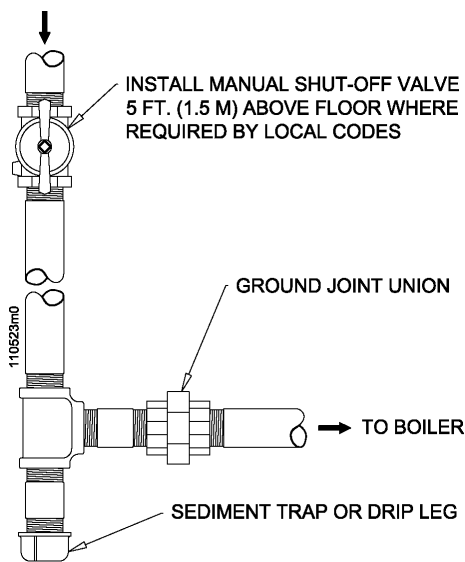

Figure 14 - Gas supply piping
- ☞ Install a manual gas shutoff valve and drip leg as shown in figure 14.